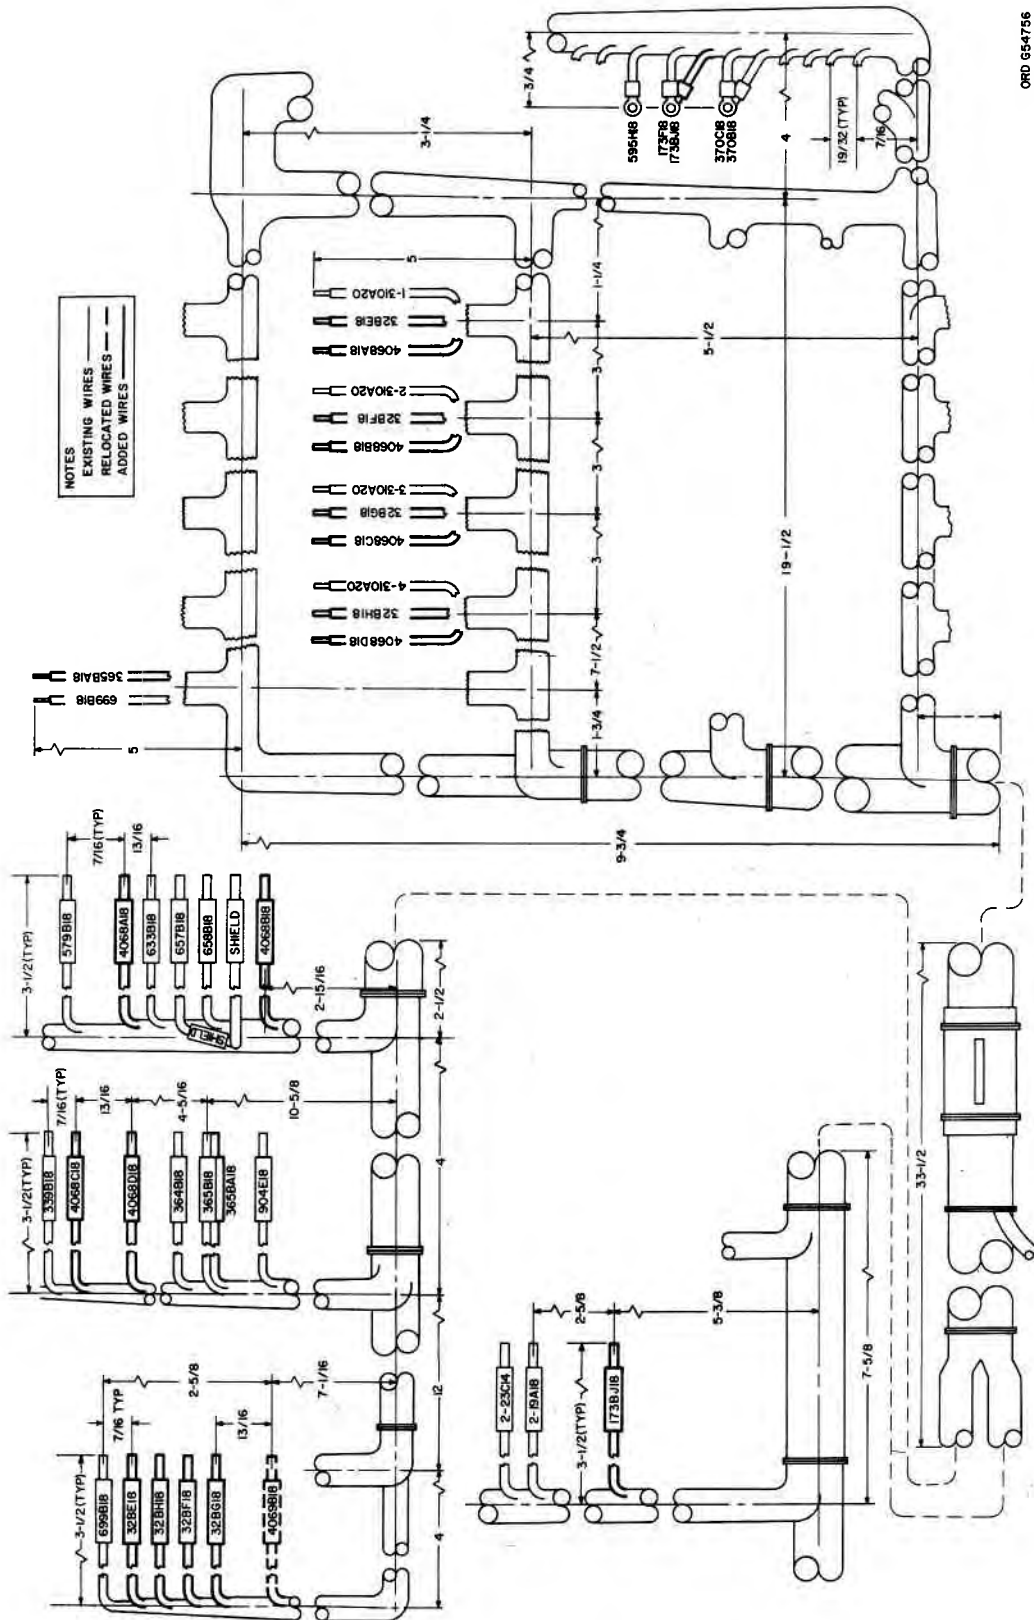

Figure 8. Modification of wiring harness 9025576 to wiring harness 9979285—
- (1) Remove wires 405E22 and 407F22 cutting these wires as required to facilitate their removal from the wire bundle.
- (2) Reidentify wire 220C20 to 225BA20 by removing the two existing identification sleeves and replacing them with the two insulation sleeves, item 10. Secure the insulation sleeves to the wire with insulation tape.
- (3) Relocate wire 225BA20, 770AH20, and 407E22 in the wiring harness in accordance with figure 8 above.
*Note.* If wire 213D22 is already included in wiring harness 8525736 discard wire 213D22, item 110, from the kit.
- (4) Add to wiring harness 8525736 the following wires in accordance with figure 8 above: wire 4068E18, item 45; wire 4068F18, item 46; wire 4068G18, item 47; wire 4068H18, item 48; wire 4069A18, item 49; and wire 213D22, item 110.
- (5) Reidentify branched wiring harness 8525736 to branched wiring harness 9978093 by removing the existing identification sleeve and replacing it with insulation sleeving, item 5. Secure the insulation sleeve to the wiring harness with insulation tape.
- (1) Remove wires 32H18, 173B18, 220B18, and 225C18, by cutting these wires where required to facilitate their removal from the wire bundle.
- (2) Reidentify wire 32J18 as 4069B18 by removing the two existing identification sleeves and replacing them with the insulation sleeving, item 22. Secure the insulation sleeves to the wire with insulation tape.
- (3) Relocate wire 4069B18 and add wire 365BA18, item 40; wire 173BJ18, item 39; wire 32BE18, item 34; wire 32BF18, item 35; wire 32BG18, item 36; wire 32BH18, item 37; wire 4068A18, item 41; wire 4068B18, item 42; wire 4068C18, item 43; and wire 4068D18, item 44, in accordance with figure 8. Secure the wires to the wire bundle with insulation tape.
- (4) Reidentify wiring harness 9025576 as branched wiring harness 9978285 by removing the existing identification sleeve and replacing it with insulation sleeving, item 3. Secure the insulation sleeve to the wiring harness with insulation tape.
*Note 2.* Refer to TM 9-1440-250-35 for assistance in locating the wires and components in steps (1) through (18) below.